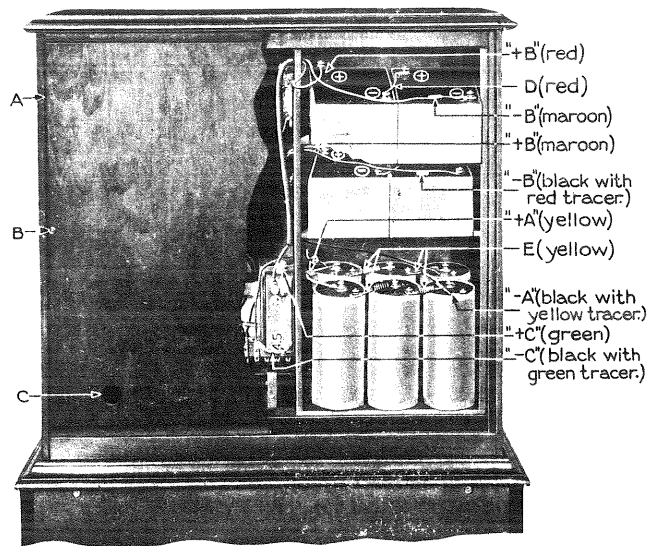

Fig. 1. Rear View, Showing Battery Connections
**Installing Batteries.** Access to the battery rack is secured by removing the two screws B (Fig. 1) (found at the center on the left- and right-hand sides of the upper panel A, on the rear of the cabinet)—which releases the panel. Place two fingers in the thumb holes C, raise the rear panel, pushing it farther into the slot in the top of the cabinet, then pull on the panel releasing the lower end, which permits the panel to drop down free from the set.
(A) Place the six dry cells in the lower compartment, three in the back row and three in the front row, taking care that the outer binding posts of all cells point in the same direction. Connect the batteries in two parallel groups, each of three cells in series, as shown in Fig. 1, using the four short yellow connectors E.